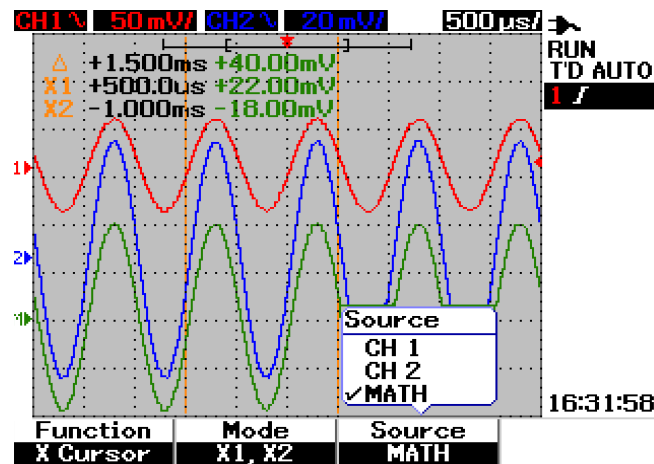

Figure 3-33 Math functions for X-cursor measurement
- 4 In Figure 3-33, two cursor lines – Y1 and Y2 mode – are selected, the measurement is made for the signal at channel 1.